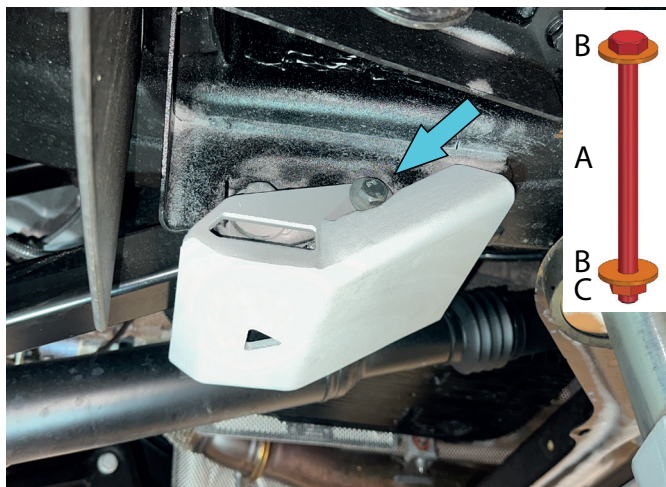

Fig. 3
3. Install the front arm skid plates (right and left) (items 3,4) using bolts M10x140, washers 10 and nuts M10 (items A,B,C) (Fig. 3).